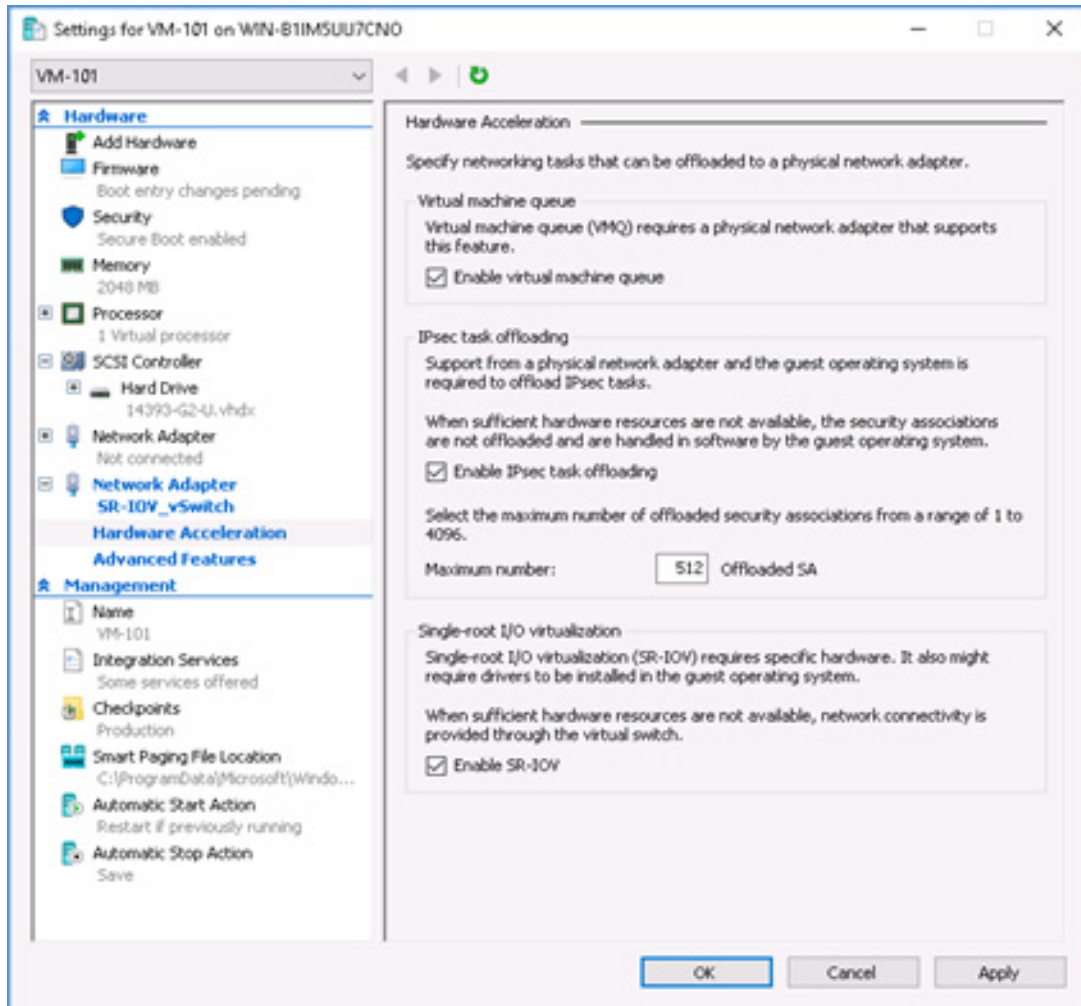

Figure 8-5. Settings for VM: Enabling SR-IOV
12. To create a virtual machine (VM) and export the virtual function (VF) in the VM:
- d. In the Settings for VM <VM_Name> dialog box (Figure 8-5), Hardware Acceleration page, under **Single-root I/O virtualization**, select the **Enable SR-IOV** check box, and then click **OK**.